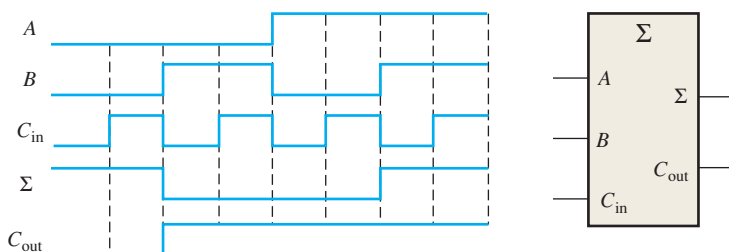

FIGURE 6-84
34. The full-adder in Figure 6-84 is tested under all input conditions with the input waveforms shown. From your observation of the Σ and C_{out} waveforms, is it operating properly, and if not, what is the most likely fault?